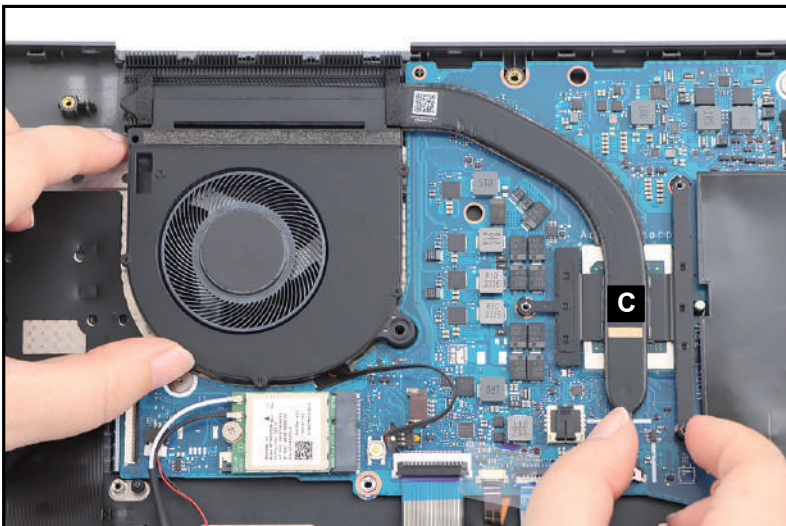

Figure 3-35. Thermal Module Removal
4. Carefully lift to remove the thermal module (C) from the mainboard and top assembly (Figure 3-35).